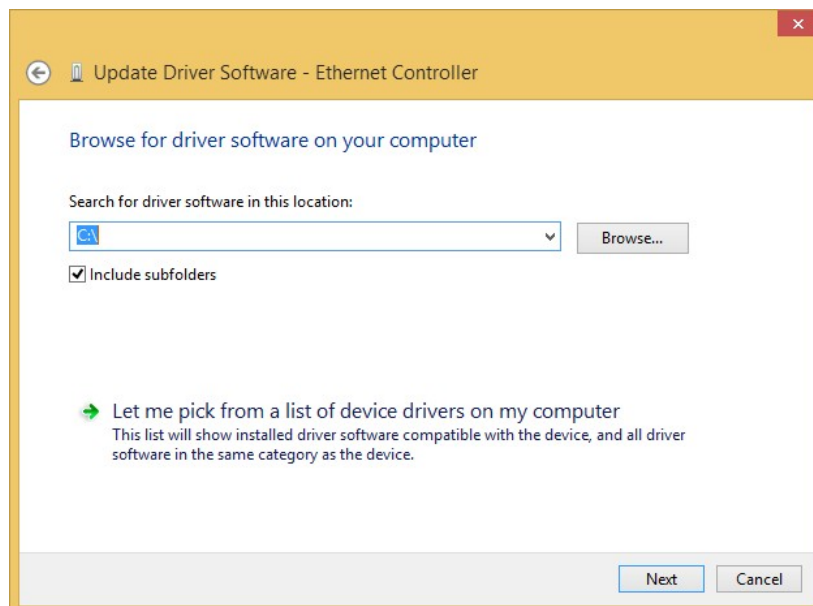

Figure 6-17: Locate Driver Files
**Step 9:** Click Browse to select “X:\2-LAN\Intel” directory in the **Locate File** window, where “X:\” is the system CD drive. (Figure 6-17).